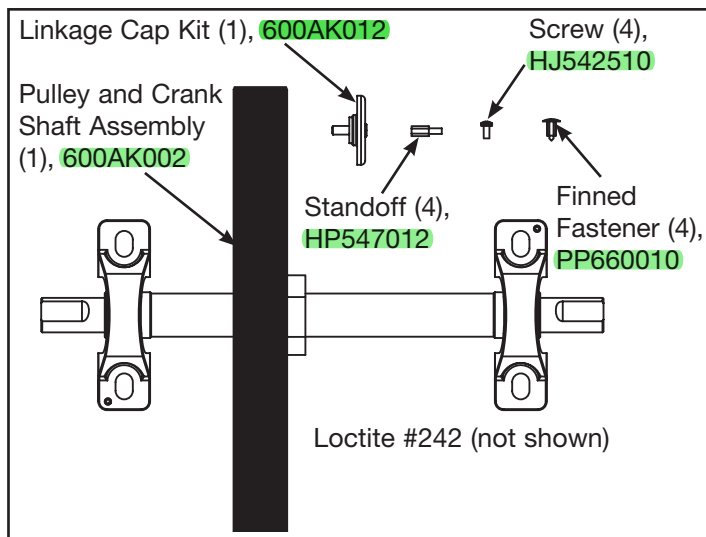

Figure 1
- B. Verify kit contents. See Figure 1.